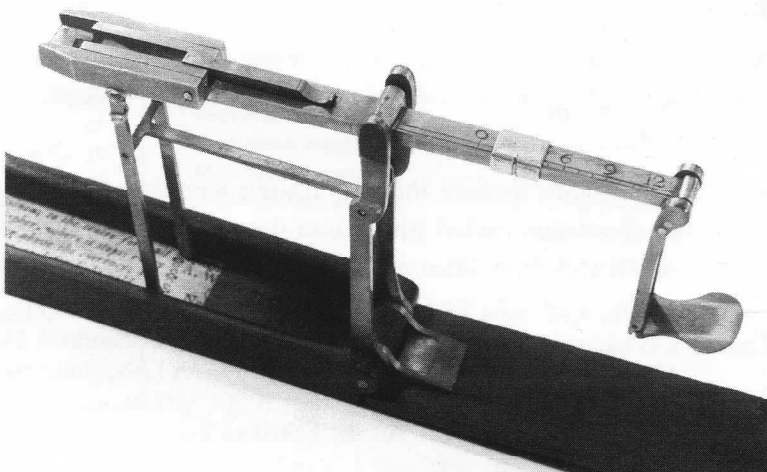

Fig. 5. >> The label has been cut across, but the name A WIL[KINSON] is visible. The pillar design is characteristic of Wilkinson.
**Anthony Wilkinson** of Ormskirk, (Late of Kirkby), Near Liverpool. Fig. 5.